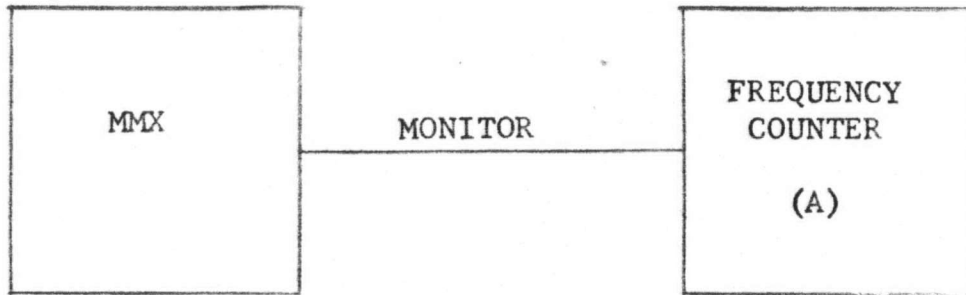

FIGURE 2.9
- a. Connect the equipment as shown in Figure 2.9.